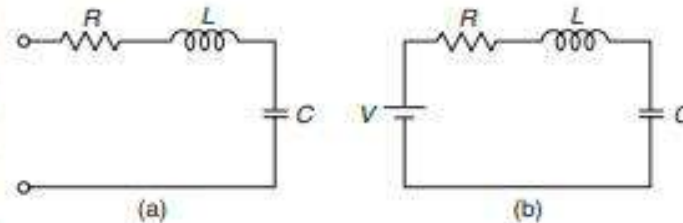

Fig. 1.7 (a) Network which is not a circuit
1. **Network and Circuit** The interconnection of two or more circuit elements (viz., voltage sources, resistors, inductors and capacitors) is called an *electric network*. If the network contains at least one closed path, it is called an electric circuit. Every circuit is a network, but all networks are not circuits. Figure 1.7(a) shows a network which is not a circuit and Fig. 1.7(b) shows a network which is a circuit.